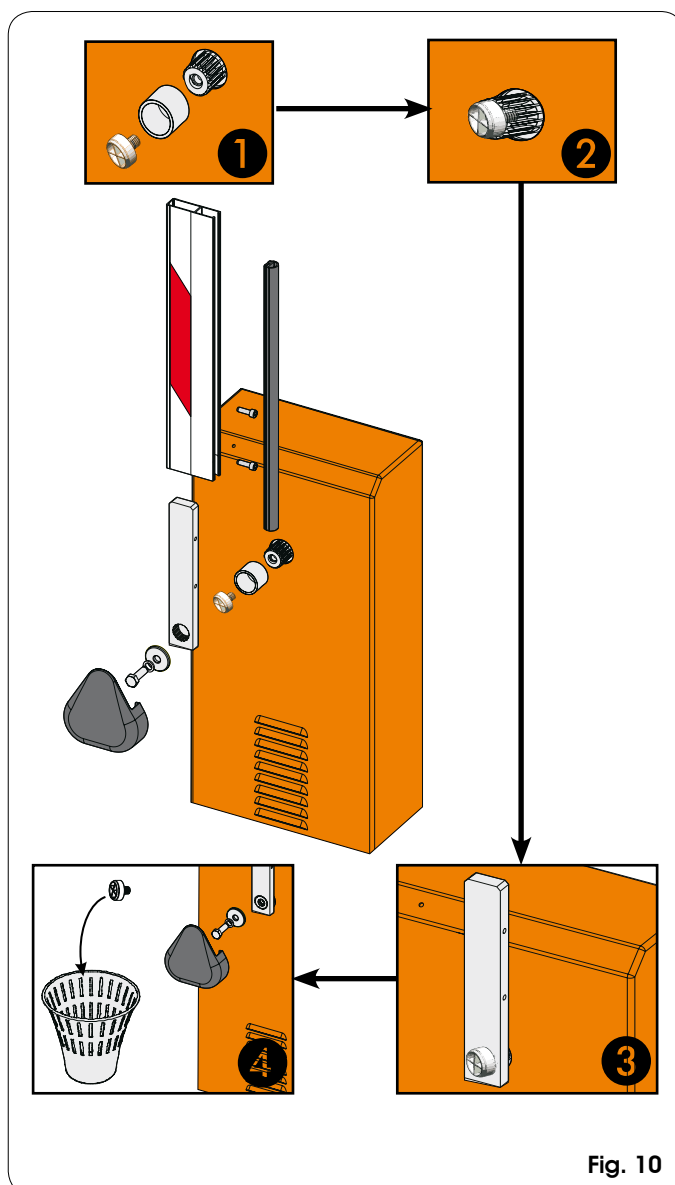
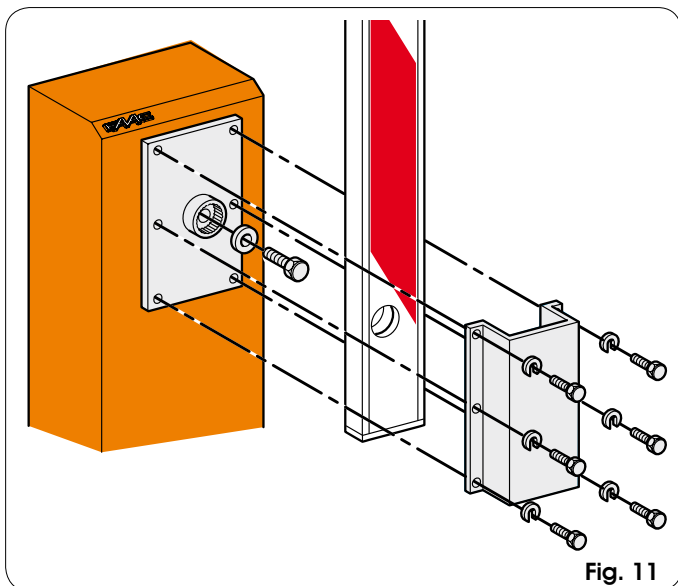

Fig. 10
Fig. 11
- 4) Assemble the beam, using the supplied screws, as shown in figures 10 or 11 (The rubber profile of the beam must face in closing direction).
2. Position the beam in opening position and remove it from the pocket as shown in Fig. 10 or Fig.11.